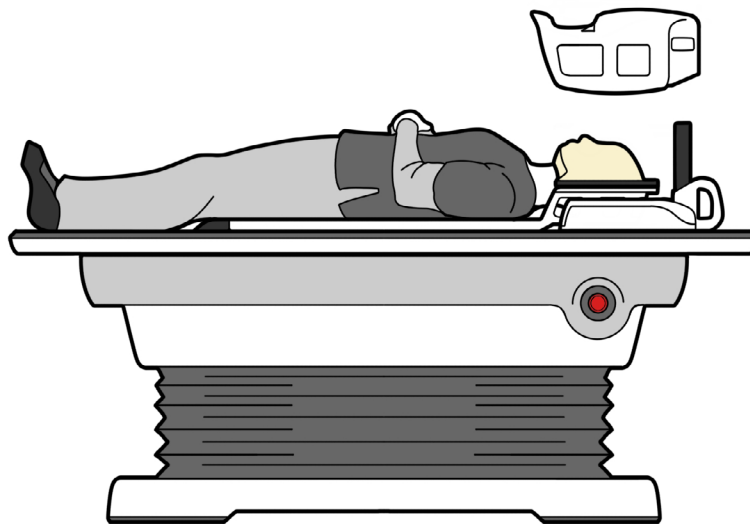
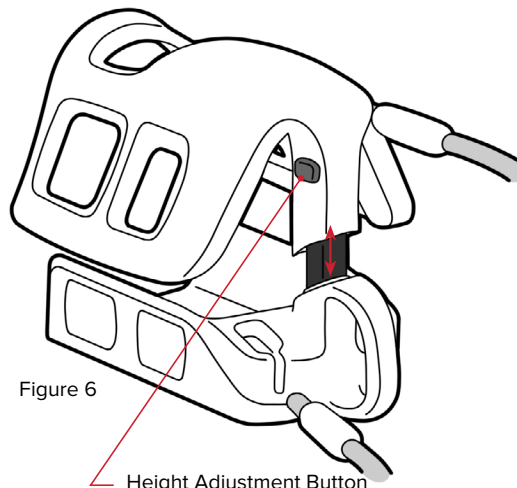

Figure 5
Figure 6
6. Install Top Coil over Patient and lower to appropriate height (Fig. 5 and Fig. 6). Use Height Adjustment Button to achieve appropriate height.